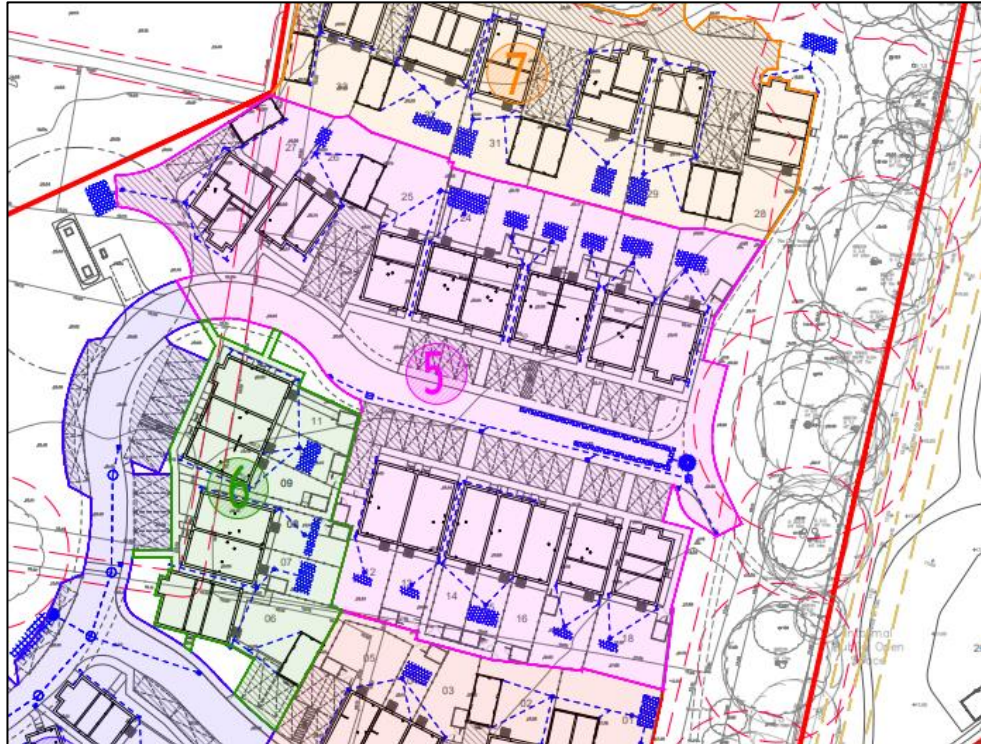

Figure 2- Site extent of Area 5
- 1.10 **Figure 2** shows the extent of Verification Area 5, comprising of 16 dwellings and associated roads.